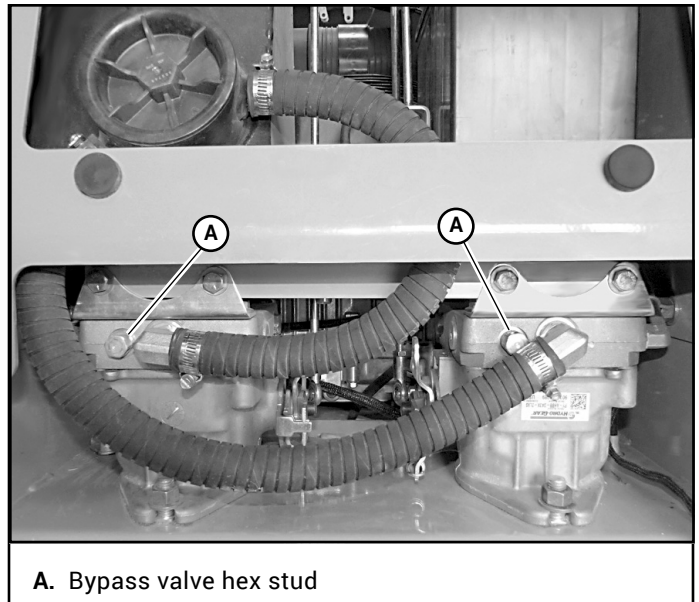

Figure 3-7
If it becomes necessary to move the mower when the engine is inoperative, the hydraulic pumps are equipped with bypass valves. Figure 3-7
- Rotate the bypass valves counterclockwise one-half to one revolution. Figure 3-7